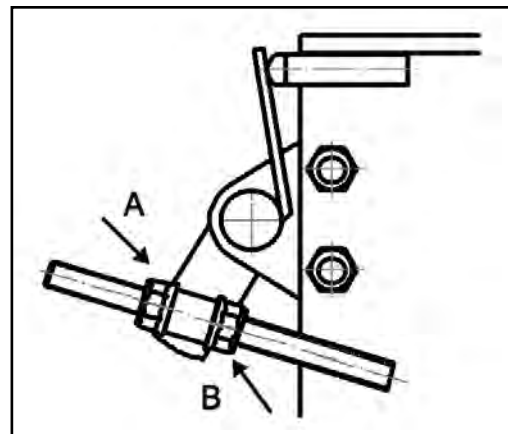

Figure 21
4. Loosen tracking adjustment nut "A" and "B" on the left side of the machine until the LH wheels starts to creep forward. Make a note of the position of the adjustment nut "A". (Figure 21).
6. For the right side, repeat step 5. (See figure 21)